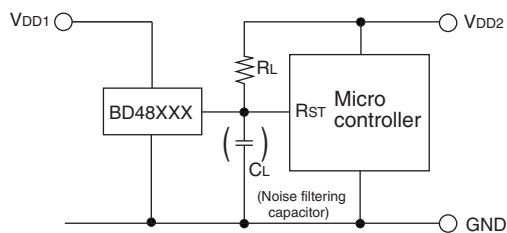

Fig. 10 Open collector output type
- When the power supply of microcontroller (V_{DD2}) and power supply for the reset detection (V_{DD1}) is different. Provide R_L for the output of a product with open drain output (BD48XXG/FVE series) on the V_{DD2} side, as shown in Fig. 10.